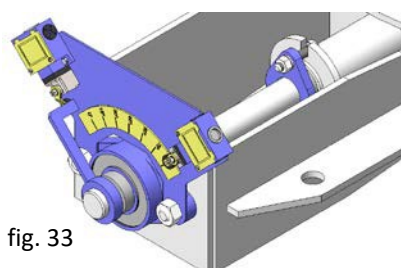

fig. 33
- Limit switches (fig. 33)
- **Mechanical limit switches, inductive switches and positioners:** Installation of limit switches (fig. 33) or inductive detectors to indicate specific valve position, and positioners to indicate continuous position.